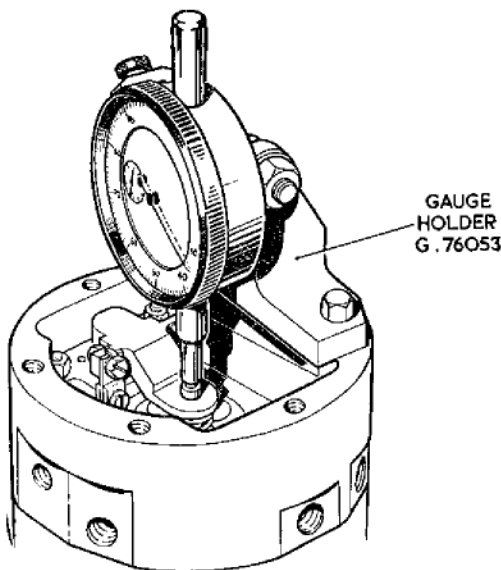

Fig. 5. Checking the rocker lever tail lift
64. Assemble the dial test indicator and holder G.76053 (*fig. 5*) to the housing and face with the foot of the indicator resting on the rocker lever tail. Set the indicator to zero then press the tail end of the rocker